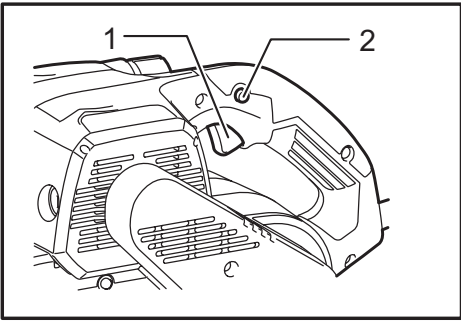

Fig.1
- Fig.1: 1. Switch trigger 2. Lock button